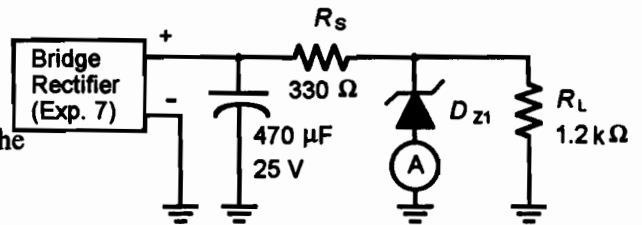

Figure 8.1
1. Build the circuit of Figure 8.1, leaving the zener diode out of the circuit.
With circuit power off, disconnect one leg of  $D_1$  in the circuit of Figure 8.1. Measure the peak-to-peak output ripple,  $I_Z$ , and DC  $V_{out}$ .
3. If the zener were installed backwards in the power supply of Figure 8.1, what do you think the result would be?
4. What is the total current through  $R_S$  in the circuit of Figure 8.1 when the load resistor is: